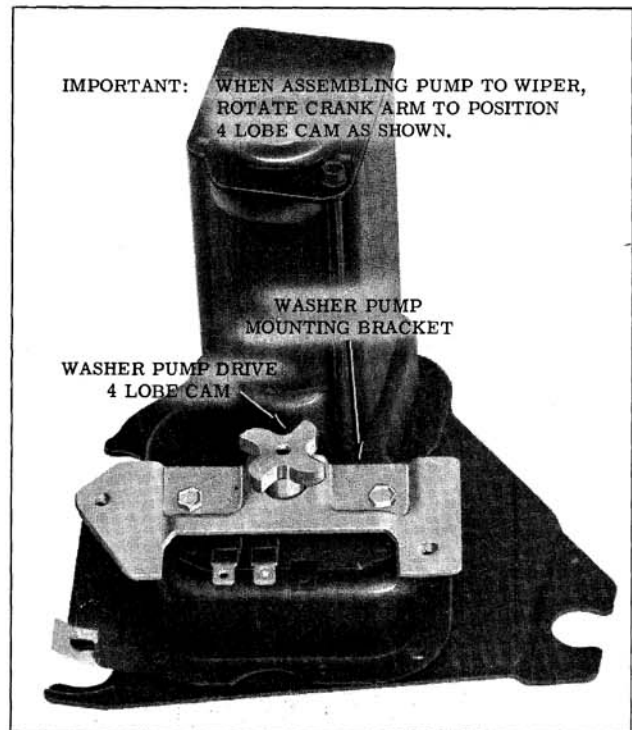

Fig. 13-166 Four Lobe Cam
- b. Position four lobe cam as shown in Fig. 13-166. It may be necessary to manually rotate crankarm.